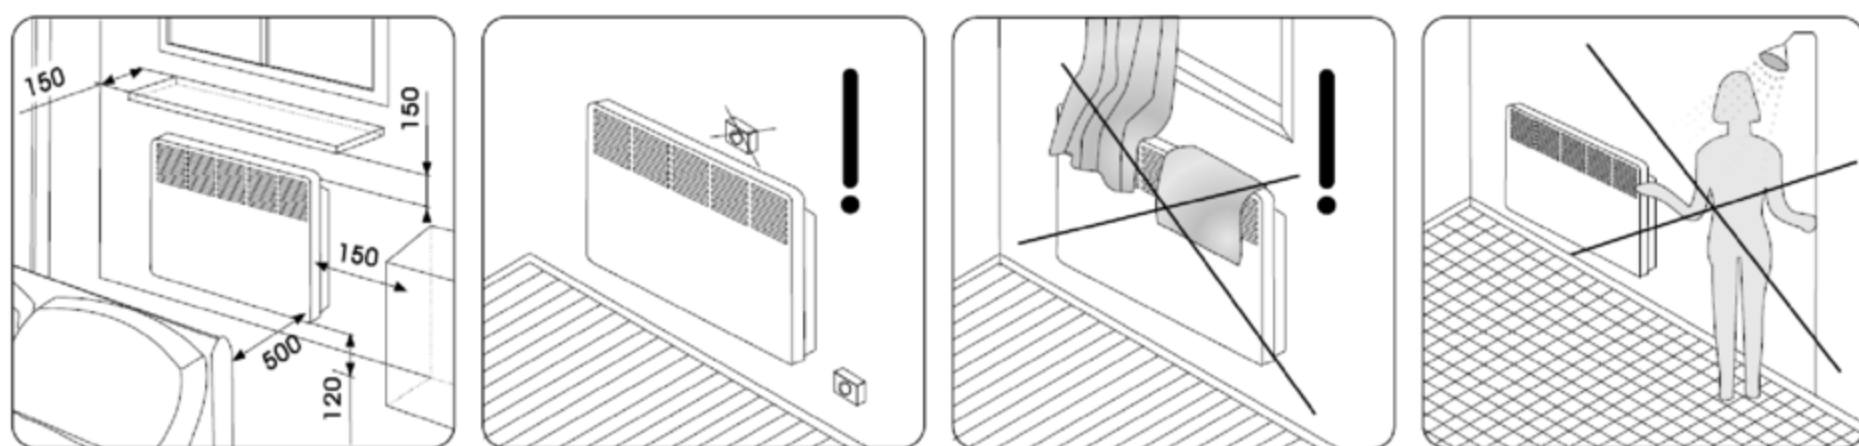

Fig. 2
3. Choose the location for the installation of the device in compliance with the minimal distances from other objects and floor according to Fig. 2.